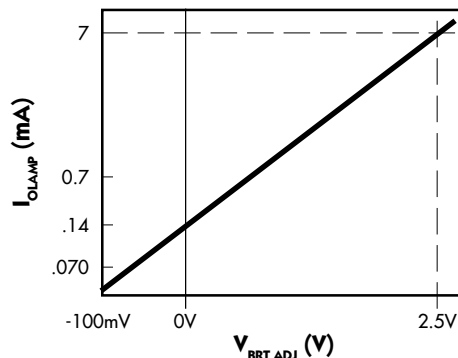

FIGURE 9 — Average Lamp Current vs. V_{BRITE} Voltage (per Lamp)
- 1) By varying the input voltage on the brightness pin as indicated in Figure 9. Caution must be exercised when applying negative voltage to the brightness control input. Applying more than -300mV to any inverter input will cause inverter malfunction (see Absolute Maximum Ratings).